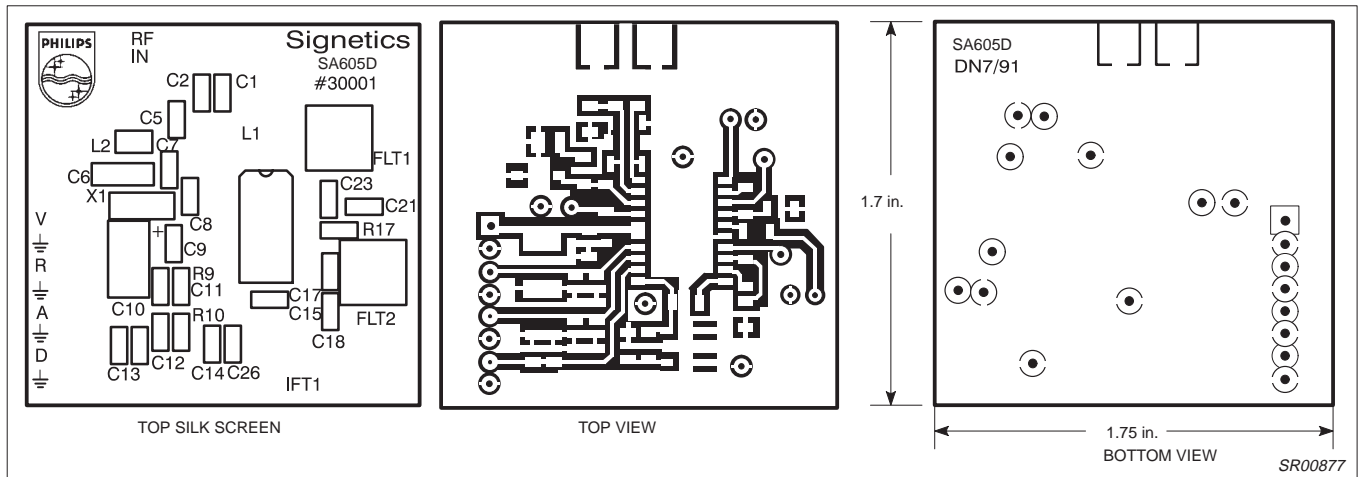

Figure 2. SA605 SO Demo-board Layout (Not Actual Size)
- The recommended SO layout can be found in Figure 2 and should be used as an example to help designers get started with their projects.